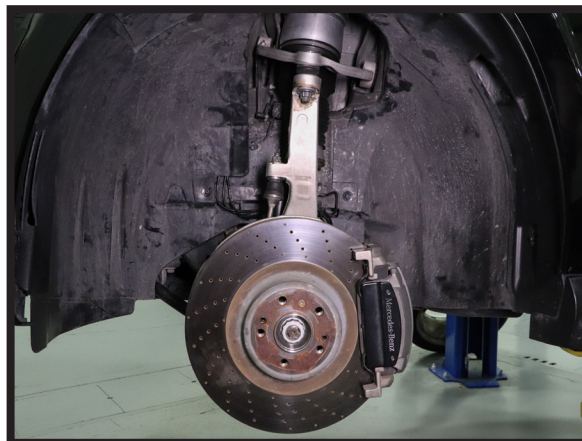

FIGURE 1
3. REMOVE FRONT WHEEL. (FIGURE 1)